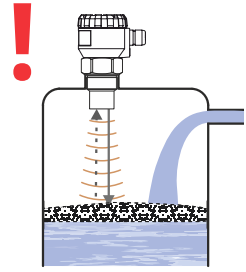

Fig. 9: Foam on the surface
- During filling, mixing and other processes, **foam** can arise on the surface level of the measured liquid. The foam considerably absorbs the ultrasonic signal which might cause malfunction of the level meter (Fig. 9). For such cases, it is necessary to set up "SENSITIVITY" mode to "high" or contact the manufacturer if need. In case of a thin layer of foam, it is also possible to use the directional horn for improving receipt of the reflected echo.